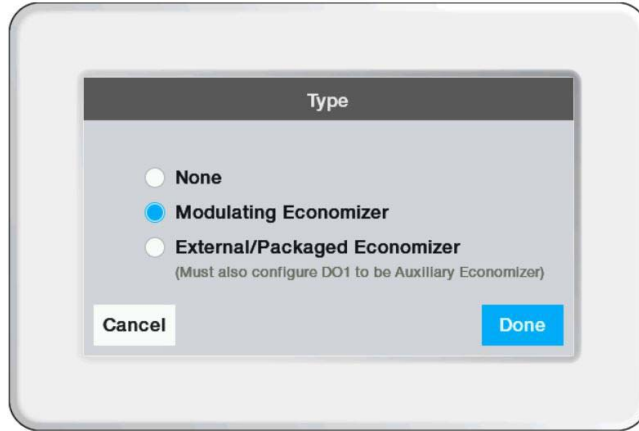

Fig. 10.
- c. Select “Modulating Economizer,” refer to Fig. 10.
- (1) Note that “External/Packaged Economizer” selection refers to a separate economizer such as the Jade W7220 or other stand-a-lone economizer.
- (2) Select “Done.”